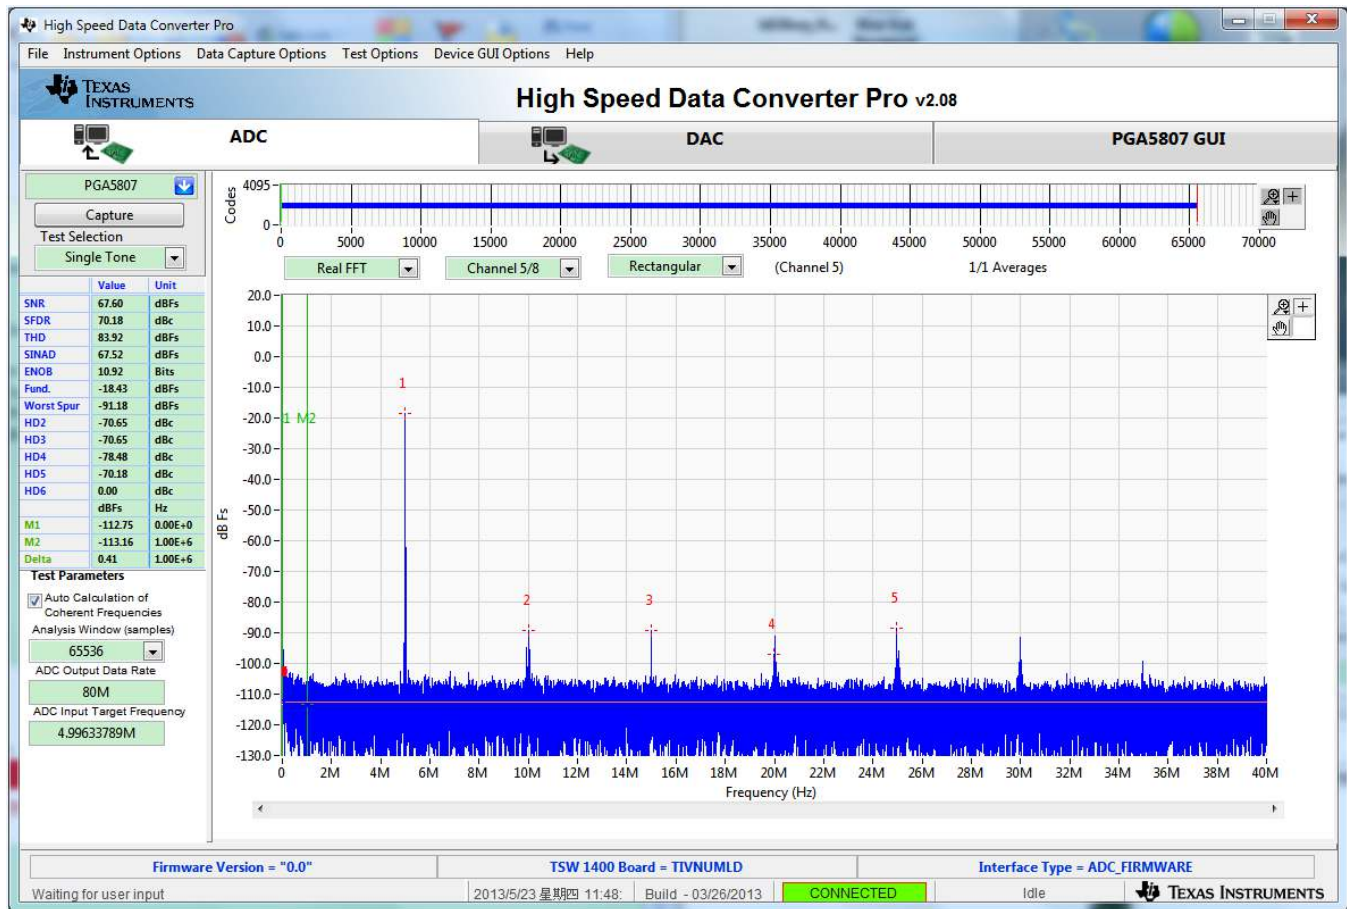

Figure 47. PGA5807+ADS5296 Gain Test Capture 2
5. Clicking on the ADC tab and pressing *Capture* results in Figure 47. Take the difference in the *Fund.* value shown here to the previous capture. This difference should equal the difference in *PGA\_GAIN* values between the two captures, or 18 dB. In this example, the difference is 17.4 dB.